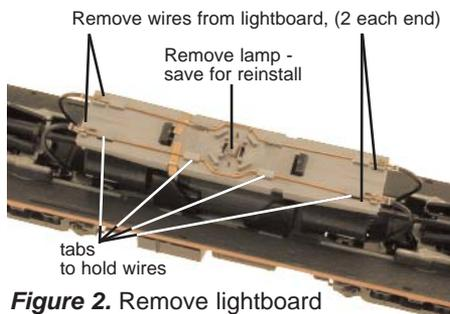

Figure 2. Remove lightboard
3. Remove the four track power pickup wires clipped to the lightboard at each corner (*Figure 2*)
5. Remove the lamp that is installed in the lightboard by pulling the track power pickup wires and the lamp wires from under the tabs on the lightboard. (*Figure 2*) There are four tabs for each wire.